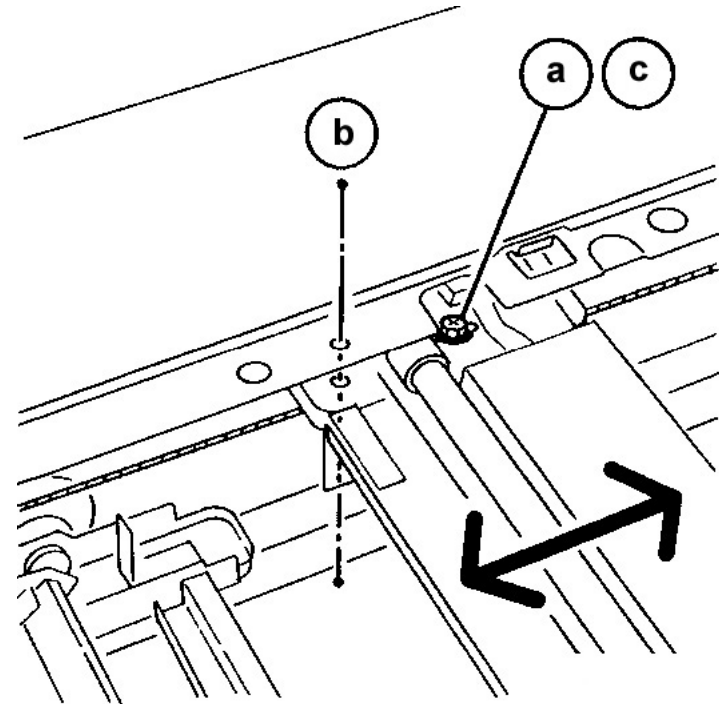

Figure 6 Moving the Full Rate Carriage to align locating holes
11. If the locating holes in the frame and the Full Rate Carriage cannot be aligned, and the alignment tool cannot be installed, perform the following steps. Figure 6